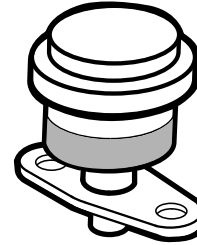

Figure 43
Service the primary air-cleaner filter only when the service indicator (Figure 43) requires it. Changing the air filter before it is necessary only increases the chance of dirt entering the engine when the filter is removed.
1. Check the filter blockage indicator. If the indicator is red, replace the air filter (Figure 43).